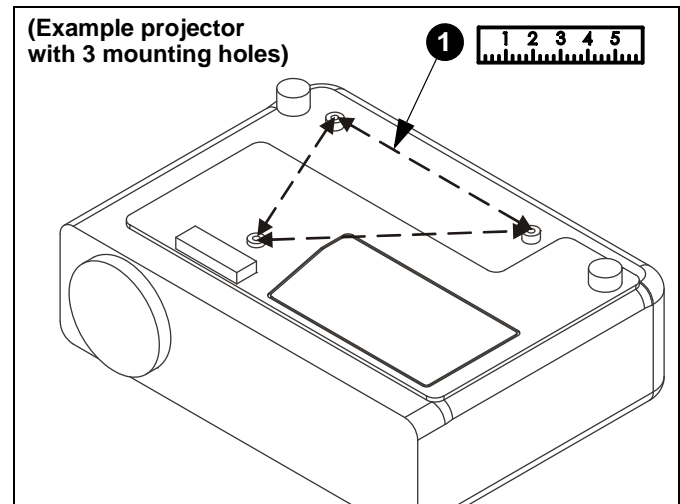

Figure 2
1. Determine the distance between the mounting holes on the projector. (See Figure 2)